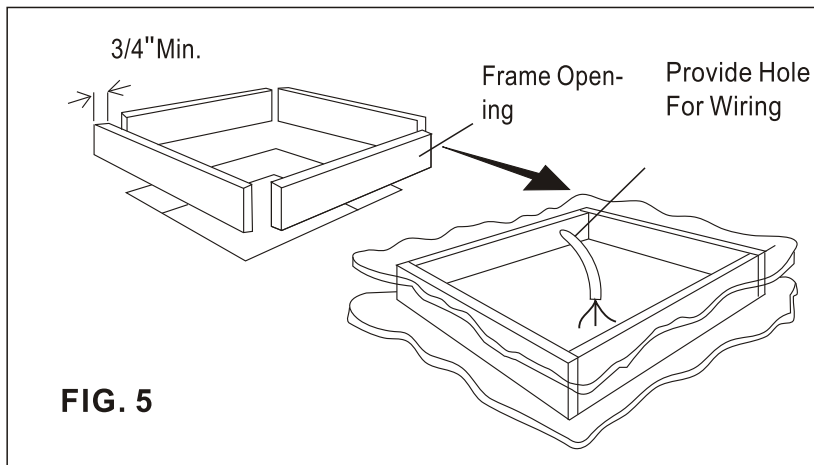

FIG. 5
4. The opening must be framed to provide adequate support and prevent air from being drawn from the roof cavity. Lumber 3/4" thick or more and long enough to bridge the opening must be used. Remember to provide an entrance hole in the front of the opening for 110v, 12v, and thermostat wires. See FIG. 5.